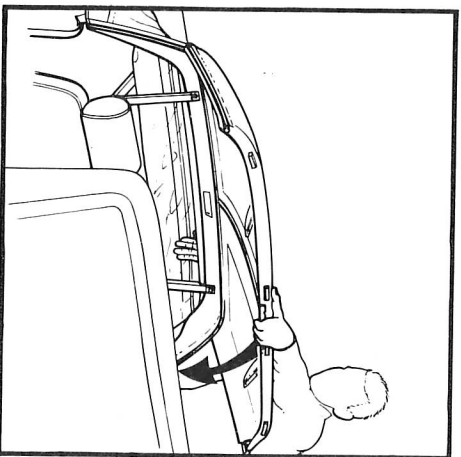
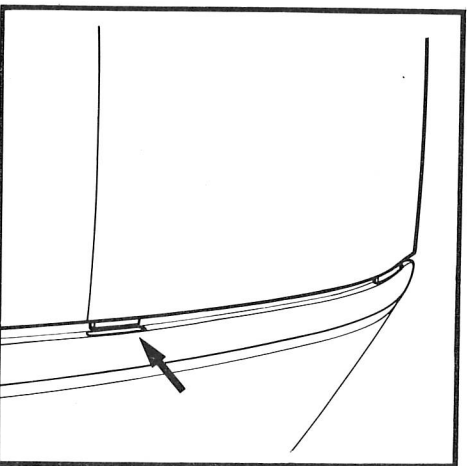

Fig. 24 Roof Panel – Windscreen Surround
Fig. 25 Leading Edge Locating Lugs.
f) Open both drivers and passengers door. If this is not possible lower both side windows. Hold both roof panels at the front on the join line. See Fig. 24. Lift the rear header whilst holding the complete assembly as one unit. The movement of the rear header will bring the leading edge of both roof panels in contact with the top of the windscreen. Position all four locating lugs in both roof panels into the recessed lugs in the Body of the windscreen surround. See Fig. 25. PLEASE NOTE: This operation should not be attempted with both doors and windows closed.